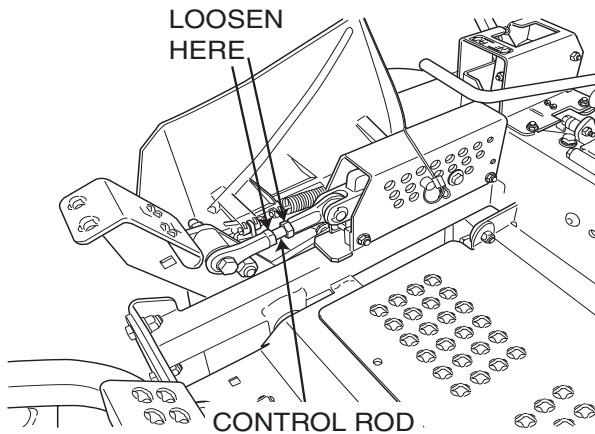

Figure 6-5. Cutter Deck Height Adjustment
1. Place the cutter deck in the transport position. Loosen the jam nuts on both ends of the deck height control rod. (See Figure 6-5)
4. Check the measurement from the floor to the cutter blade tip. If the measurement is not at 3", an adjustment can be made using the deck height control rod. (See Figure 6-5)